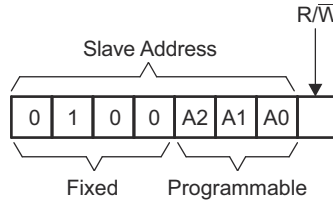
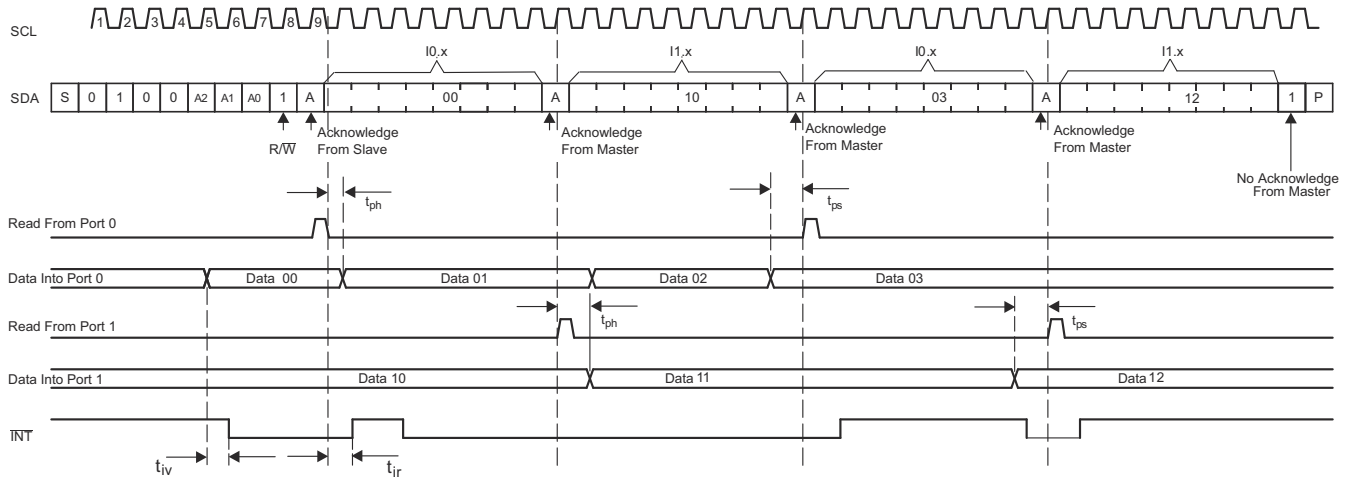

图 8-6. PCA9555 Address
**图 8-10. Read From Register**
图 8-6 shows the address byte of the PCA9555.
Data is transmitted to the PCA9555 by sending the device address and setting the least-significant bit to a logic 0 (see Figure 8-6 for device address). The command byte is sent after the address and determines which register receives the data that follows the command byte.
The bus master first must send the PCA9555 address with the least-significant bit set to a logic 0 (see Figure 8-6 for device address). The command byte is sent after the address and determines which register is accessed. After a restart, the device address is sent again, but this time, the least-significant bit is set to a logic 1. Data from the register defined by the command byte then is sent by the PCA9555 (see Figure 8-10 through Figure 8-12).
- B. This figure eliminates the command byte transfer, a restart, and slave address call between the initial slave address call and actual data transfer from the P port (see 图 8-10 for these details).